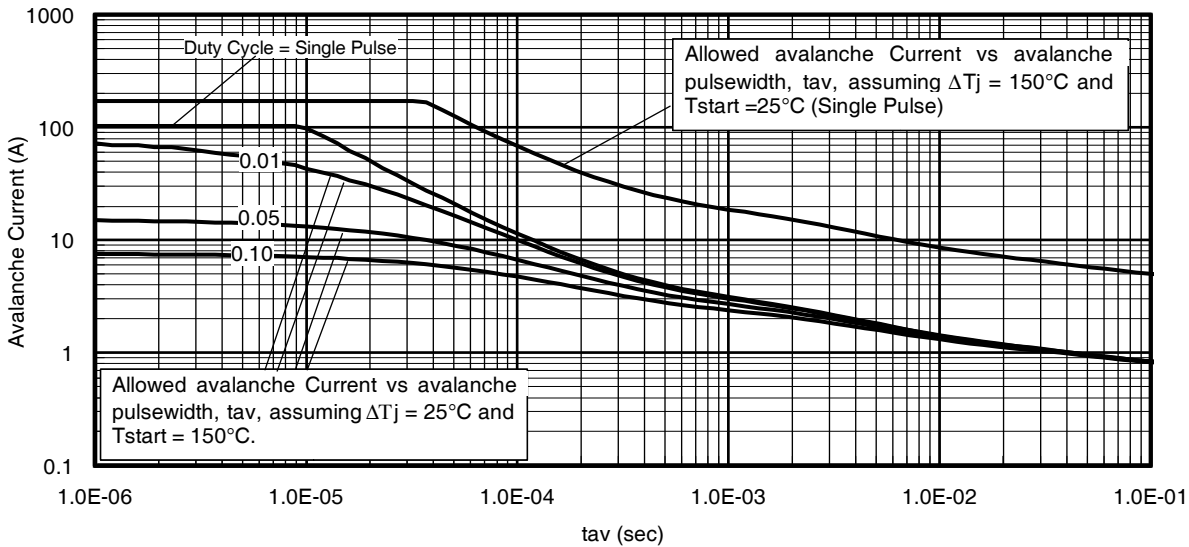

Fig 14. Typical Avalanche Current vs. Pulsewidth
**Notes on Repetitive Avalanche Curves , Figures 14, 15:**
7.  $\Delta T$  = Allowable rise in junction temperature, not to exceed  $T_{jmax}$  (assumed as  $25^\circ\text{C}$  in Figure 14, 15).